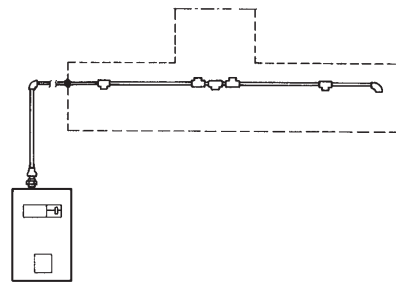

FIGURE 5-7
2. Based on the piping sketch developed in the "System Design" section of this manual, install the supply line and position the tees at points where branch lines must be installed. See Figure 5-7.